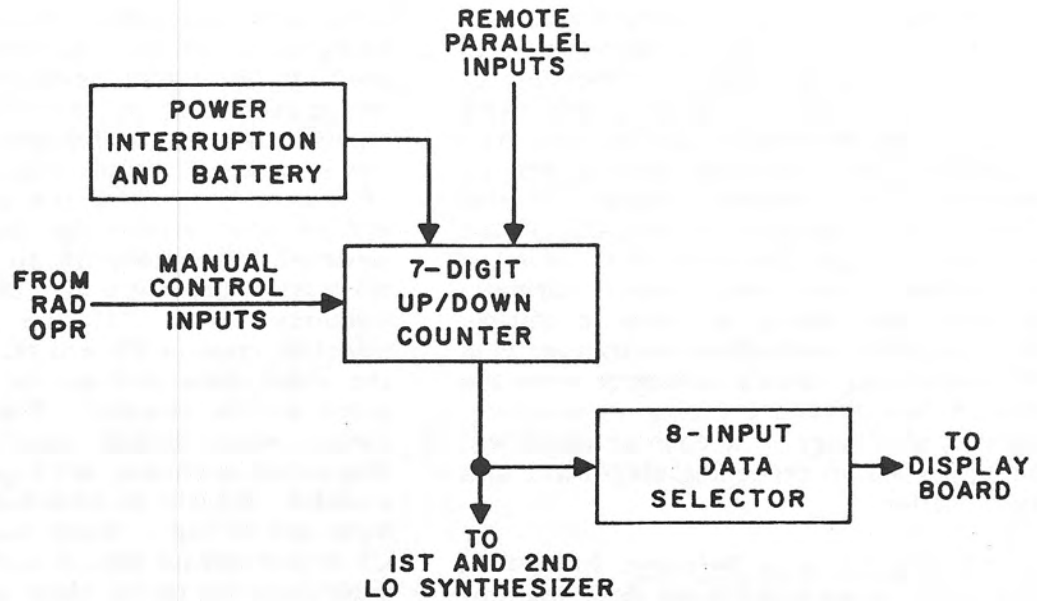

Figure 3-25. Manual Tuning Up/Down Counter Digital Diagram
b. Manual Tuning Up/Down Counter (A6A1). The data that constitutes the rf frequency is present in the up/down counter and it is sent to the 1st and 2nd lo synthesizers and is encoded for use by the frequency display board. The manual tuning module is the means by which frequency information is changed in the receiver. Refer to manual tuning up/down counter digital diagram, figure 3-25 and manual tuning up/down counter schematic diagram, figure FO-19.